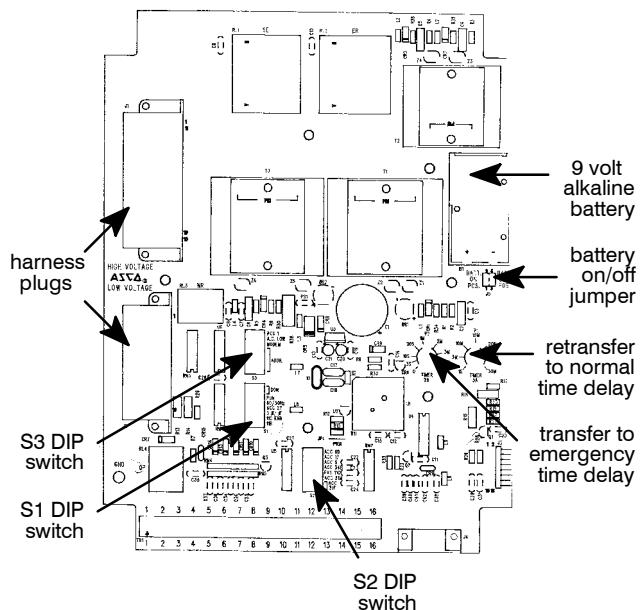
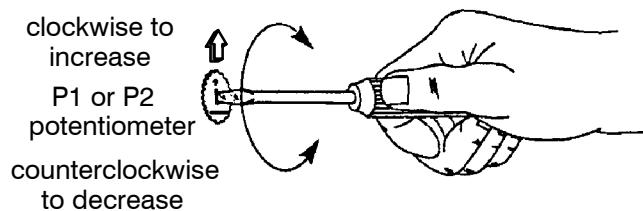
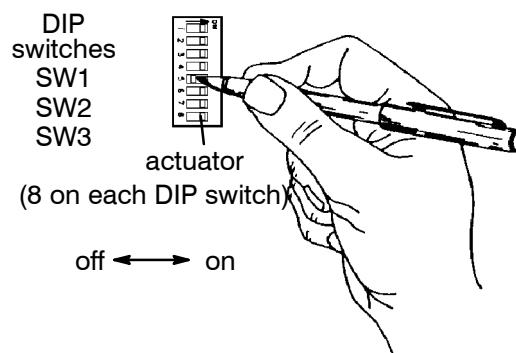

Figure 4-2. Location of potentiometers.
Figure 4-3. Changing time delay potentiometers.
Figure 4-4. Setting DIP switch actuators.
4. Locate the appropriate adjustment potentiometer or DIP switch for the setting that you want to change. Refer to Table 4-1 and Table 4-2 on page 4-1 and Figure 4-2, Figure 4-3, Figure 4-4 on page 4-2.
5. Use a small screwdriver to turn the potentiometer clockwise to increase the time delay or counterclockwise to decrease it. See Figure 4-3.
6. Use a ball-point pen (or similar pointed tool) to slide the switch actuators left or right so they match the illustration next to the setting (left = off, right = on). Recheck the setting. See Figure 4-4.
The engine exerciser included in ASCO Series 300 Automatic Transfer Switches provides a once a week 20-minute exercise period. It occurs immediately when the SET ENGINE EXERCISER push button is pressed (and held for at least 5 seconds), and then at the same time weekly thereafter. A 9 volt alkaline battery (Duracell® MN1604, Everready® 522, or Panasonic® 6AM6) is furnished and installed in the controller to maintain the setting. The battery jumper block must be shifted to the ON position. See Figure 4-2 on page 4-2.